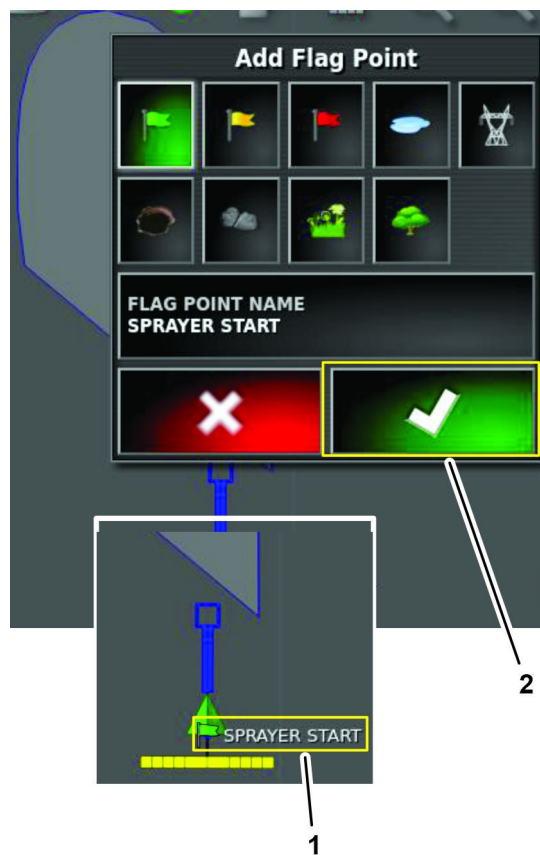

Figure 82
6. In the add flag point dialog box, press the confirm icon (Figure 82).